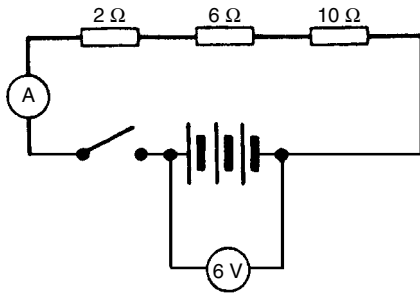

Figure 5.38
- With the switch in Fig. 5.38 closed the ammeter reading will indicate: (a) 108 A (b) $\frac{1}{3}$ A (c) 3 A (d) $4\frac{3}{5}$ A
- A 6Ω resistor is connected in parallel with the three resistors of Fig. 5.38. With the